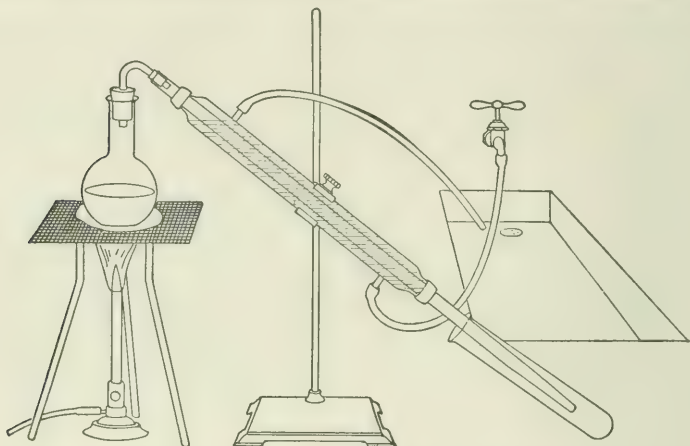

Fig. 29. Distilling water with Liebig condenser.
**Optional work.** Set up a Liebig condenser as represented in figure 29. Use 100 cc. of ordinary water and add to it one drop of concentrated ammonium hydroxide solution. In each of six clean test tubes place one drop of phenolphthalein solution (an